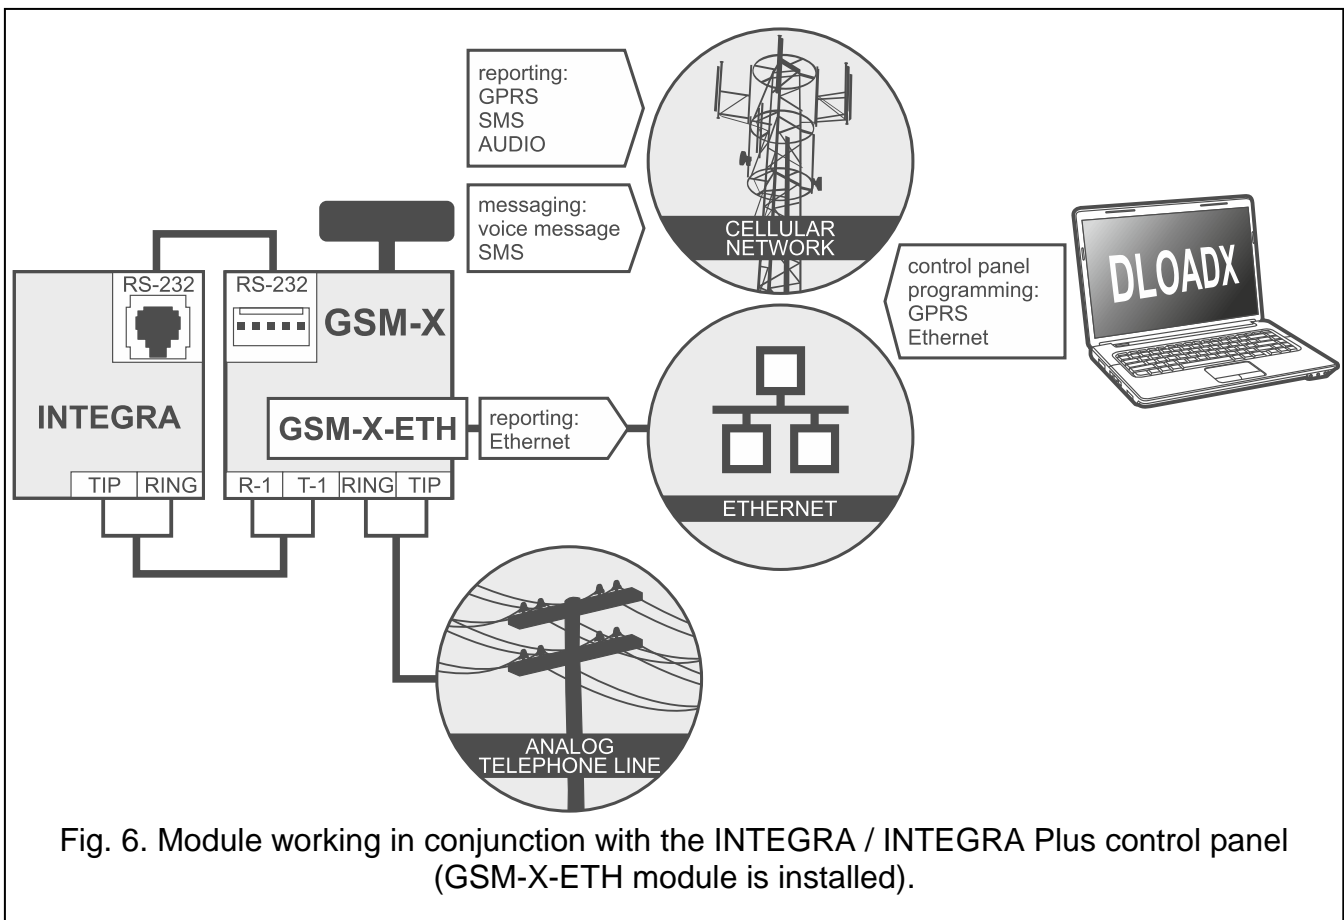
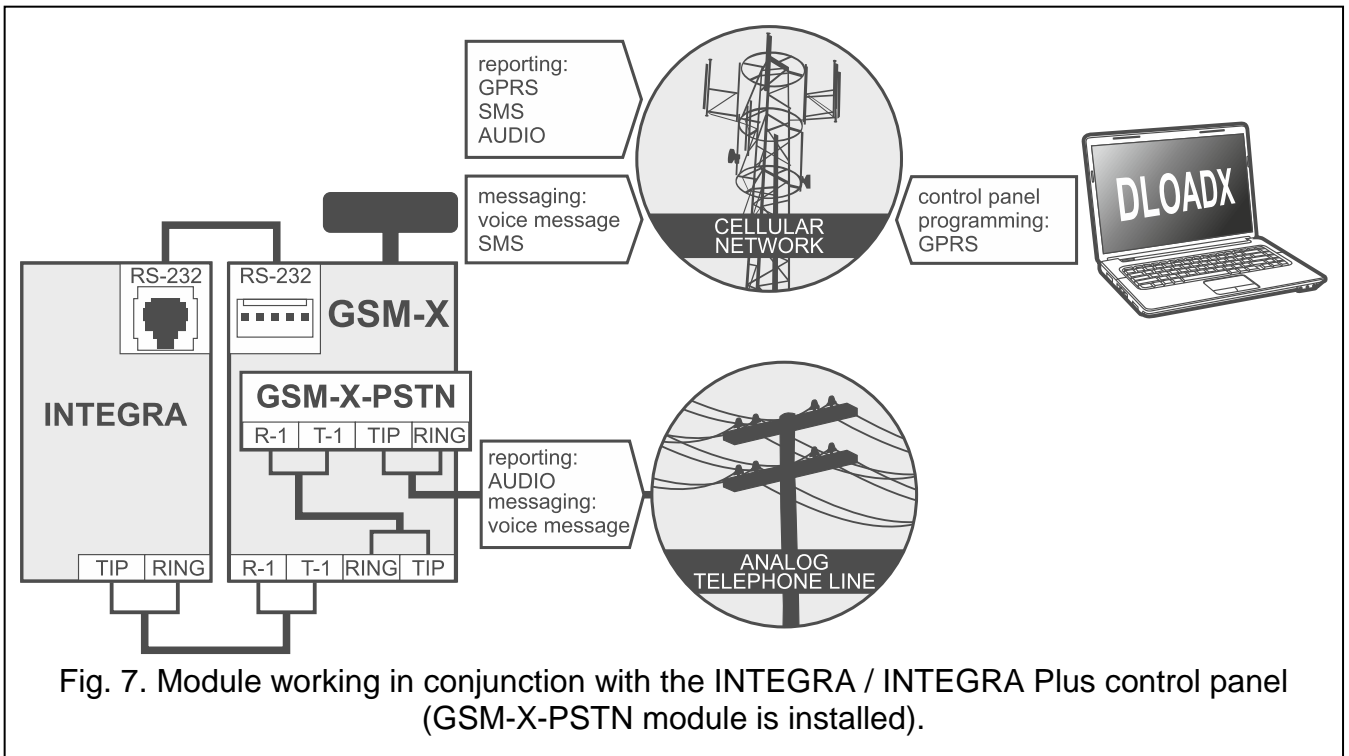

Fig. 6. Module working in conjunction with the INTEGRA / INTEGRA Plus control panel (GSM-X-ETH module is installed).
Fig. 7. Module working in conjunction with the INTEGRA / INTEGRA Plus control panel (GSM-X-PSTN module is installed).
- transmission of event codes to the monitoring station via cellular network or, optionally, Ethernet network (if GSM-X-ETH module is installed – Fig. 6) / PSTN network (if GSM-X-PSTN module is installed – Fig. 7),
- voice messaging via PSTN network (if GSM-X-PSTN module is installed – Fig. 7),